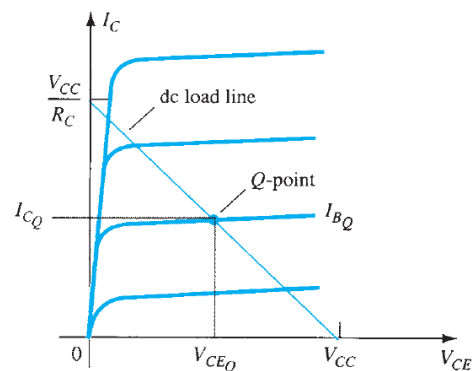

Fig. 3
To appreciate the importance of the dc bias on the operation of the power amplifier, consider the collector characteristic shown in Fig. 3 . **A dc load line is drawn using the values of  $V_{CC}$  and  $R_C$  . The intersection of the dc bias value of  $I_B$  with the dc load line then determines the operating point (  $Q$  -point) for the circuit. The quiescent-point values are those calculated using Eqs. (1) through (3). If the dc bias collector current is set at one-half the possible signal swing (between 0 and  $V_{CC}/R_C$  ), the largest collector current swing will be possible. Additionally, if the quiescent collector–emitter voltage is set at one-half the supply voltage, the largest voltage swing will be possible ( $Q$ -point set at optimum bias point).**